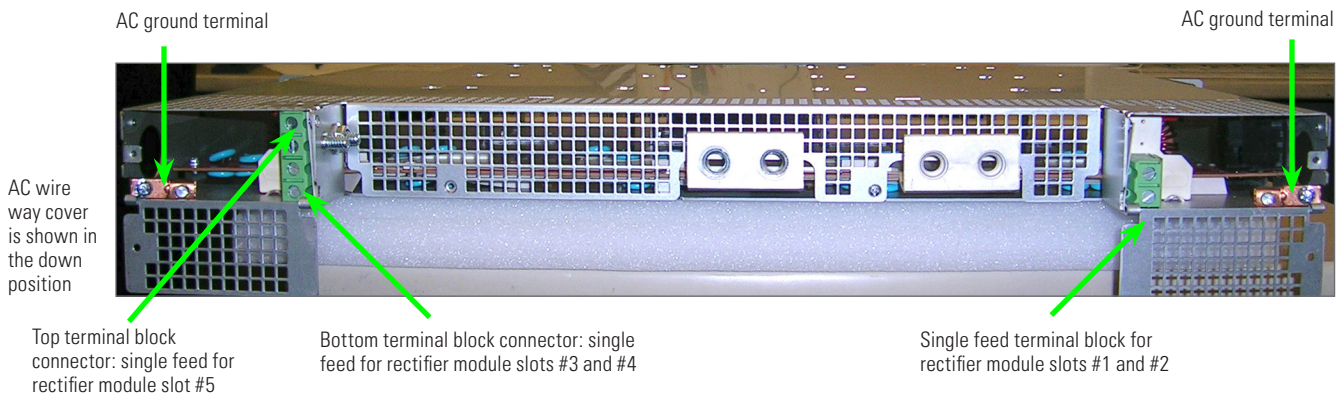

Figure 45: AC input power and ground wire connections for 23-inch shelf
2. At the rear of the shelf, remove the screw and flip the AC wire way cover down (two places) to access the AC input terminal blocks: each terminal pair corresponds to either two rectifier modules or a single rectifier module as shown in Figure 45.